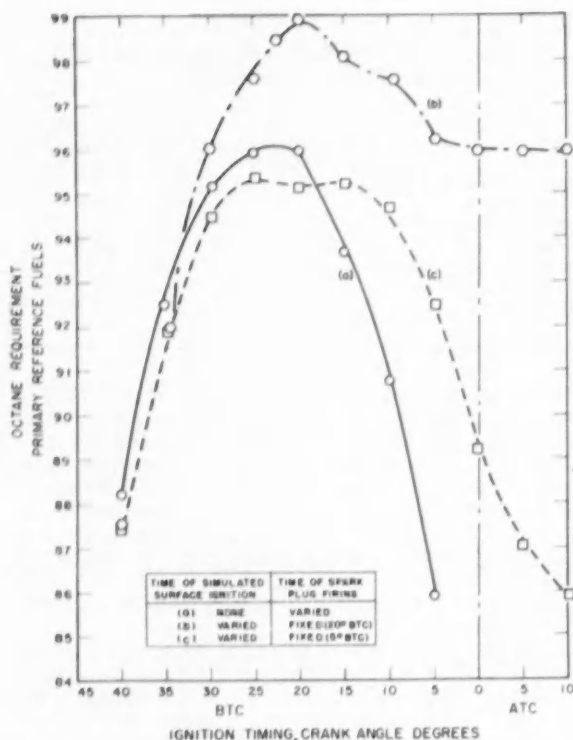

Fig. 4—Effect of simulated surface ignition on octane requirement
Such a set of octane requirements is shown in Fig. 4 for a compression ratio of 7.0/1. The information as to changes in knocking tendency expressed in terms of octane requirements does not differ from that previously discussed on the basis of kler. However, since octane requirements are more familiar units, it may prove worth while to examine these requirements briefly. Some of the pertinent data are shown in Table 1.
2. Surface ignition need not occur prior to the spark firing in order to increase the octane requirement. For instance, Table 1 shows that, with the spark at 5 deg bte, simultaneous ignition of the charge by two sources raised the requirement from 85.9 to 92.5. In fact, even surface ignition taking place well after the firing of the spark can cause a substantial rise in requirement, as shown in Fig. 4.